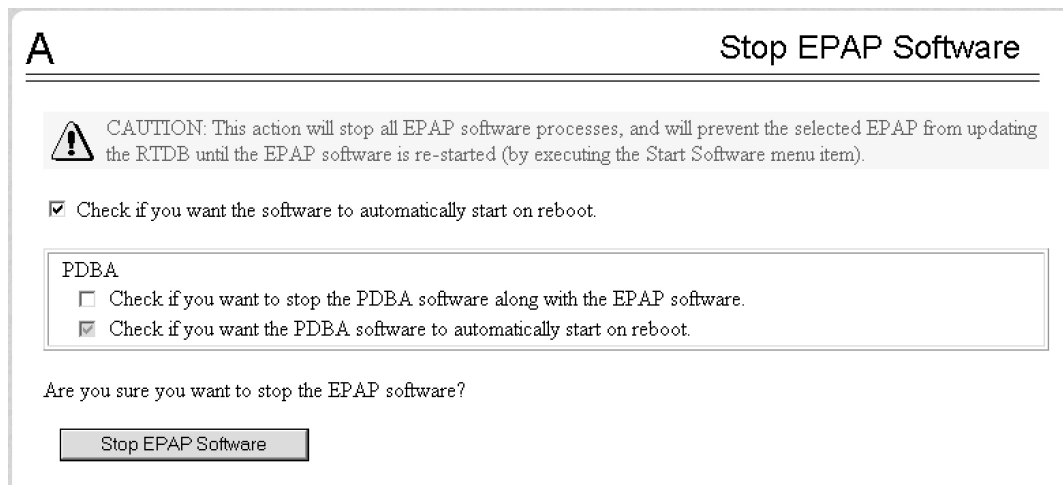

Figure 26: Stop EPAP Software
4. Select **Process Control>Stop Software** to ensure that no other updates are occurring. The screen in Figure 26: Stop EPAP Software displays: